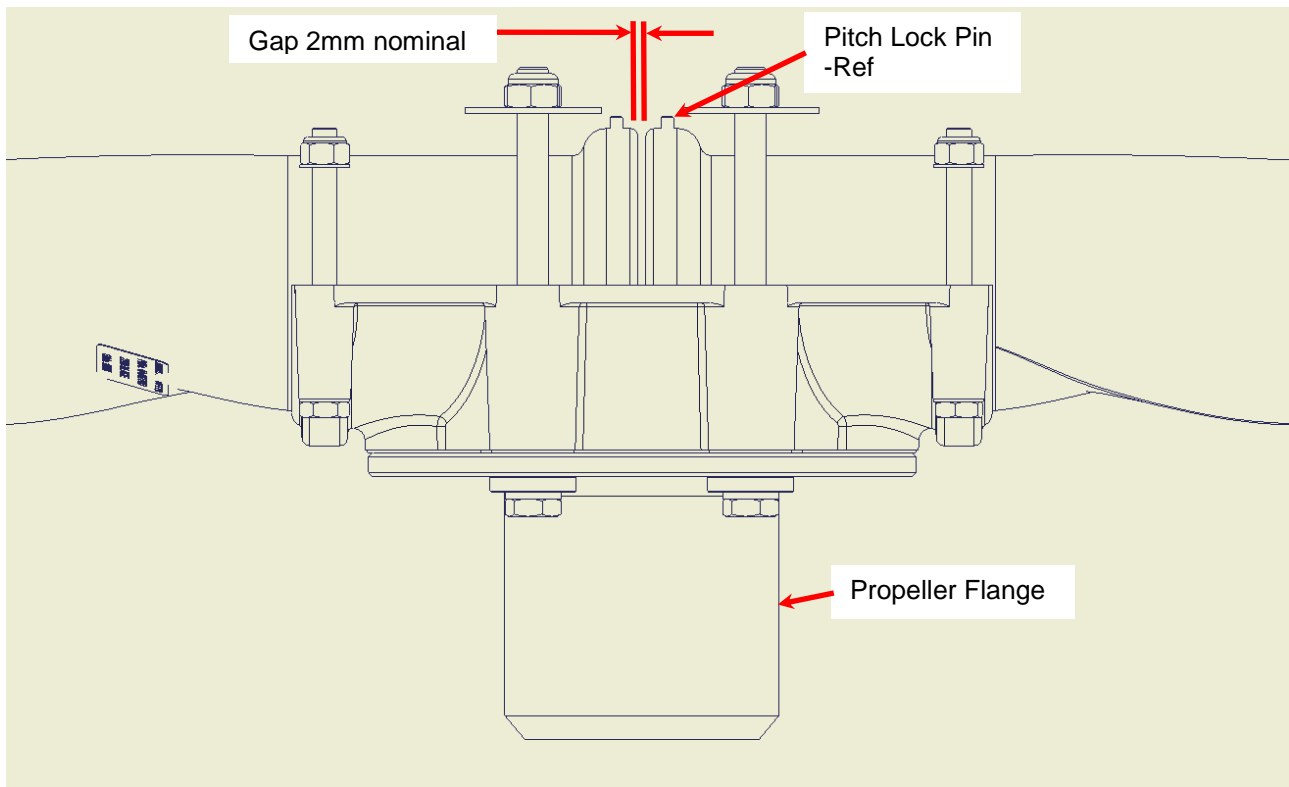

Figure 6 – Blade Assy Detail (View from beside hub, front hub not shown)
2. Fit the two blades to the hub. By design there is a small space between the inner ends of the two blades (Figure 6). Care must be taken to ensure that the blades are positioned with their retaining shoulders hard against the matching shoulders of the hub (i.e. with the gap between blades as large as possible). Failure to achieve this can result in one blade being positioned differently to the other, resulting in an out of balance condition and increased vibration. **A small square of 3mm thick foam can be attached to the root of one blade using clear adhesive tape to act as a spacer between the two blades.**